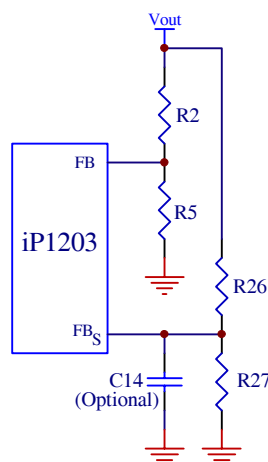

Fig. 14: Typical Scheme for Output Voltage Setting
The output of the iP1203 will shut down if it experiences a voltage in the range of 115% of V_{OUT} . The overvoltage sense pin FB_s is connected to the output through voltage dividers, R26 and R27 (Fig. 14), and the trip setpoint is programmed according to equation (1). A separate overvoltage sense pin FB_s is provided to protect the power supply output if for some reason the main feedback loop is lost (for instance, loss of feedback resistors). An optional 100pF capacitor (C14) is used for delay and filtering.
When selecting output capacitors, it is important to consider the overshoot performance of the power supply. If the amount of capacitance is not adequate, then, when unloading the output, the magnitude of the overshoot due to stored inductor energy, and depending on the speed of the response of the control loop, can exceed the overvoltage trip threshold of the iP1203PbF and can cause undesirable shutdown of the output. The magnitude of the overshoot should be kept below $1.125V_{OUT}$. To prevent the overshoot from tripping the output a delay can be added by installing capacitor C14 as shown in Fig.14.